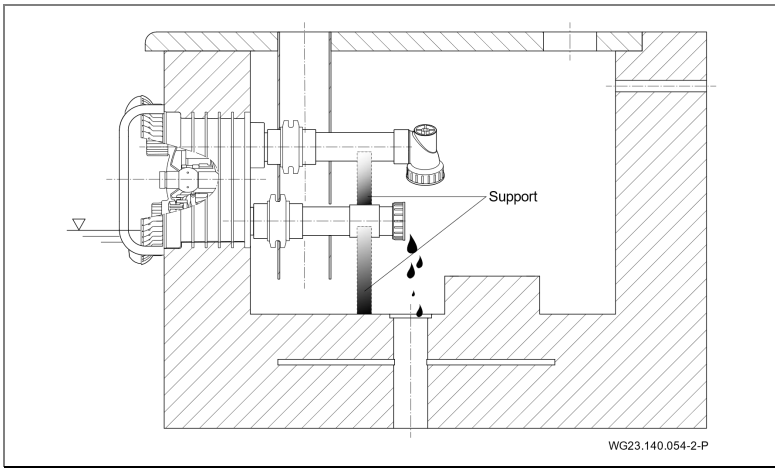

Fig. 28
- 3. Support the suction and pressure lines to relieve them. See "Fig. 28".